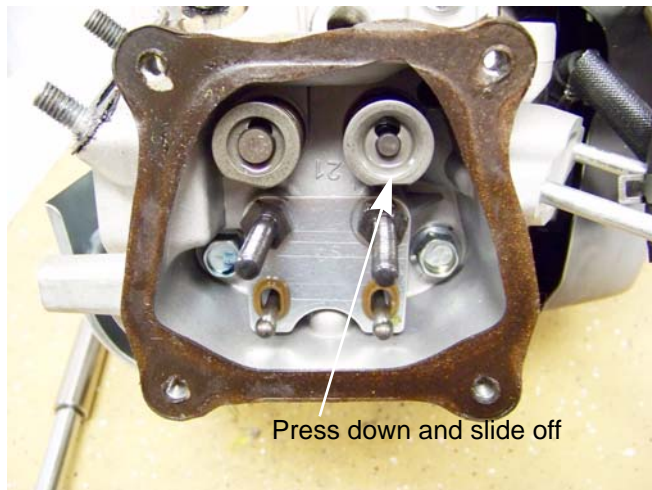

Figure 9.10
3. Remove the valve retainers by applying light finger pressure and moving the retainer so that the valve stem passes through the large part of the "keyhole" opening in the retainer. See Figure 9.10.